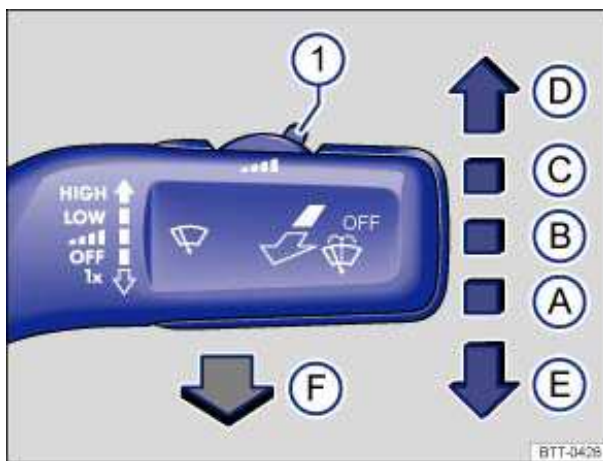

Fig. 79 Operating the front windshield wiper.
- Press the windshield wiper lever down briefly ⇒ fig. 79 \(E\) when the ignition is off.
Carefully fold the wiper arms back onto the windshield before driving! Switch the ignition on and press the windshield wiper lever down briefly ⇒ fig. 79 \(E\). The wiper arms move back to their original position.